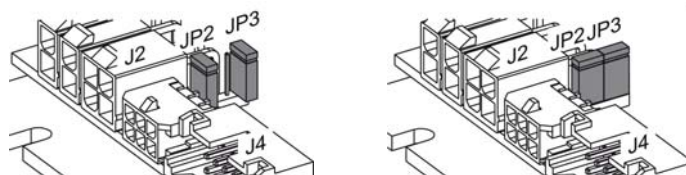

Figure 4-9 Jumpers JP2/JP3 – open (left) / closed (right)
- 2) Set jumpers JP2 and JP3 to “closed” position (→Figure 4-9, right).